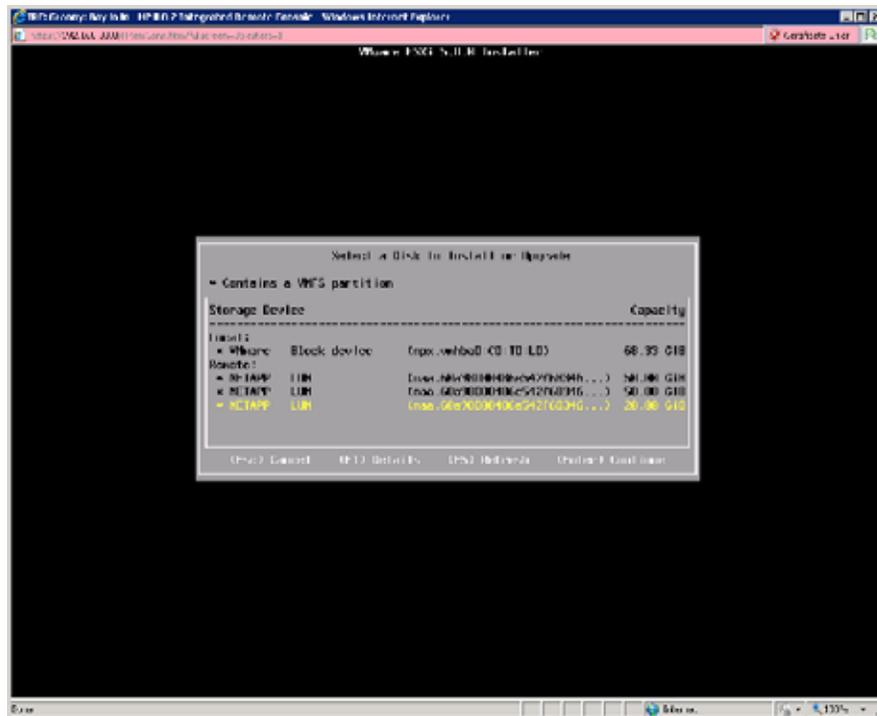

Figure 7 Select a Disk for Booting
Step 6 On the Select a Disk to Install or Upgrade dialog, select the LUN on which the iSCSI Boot vNIC is connected. Figure 7 on page 81 show an example of this dialog.